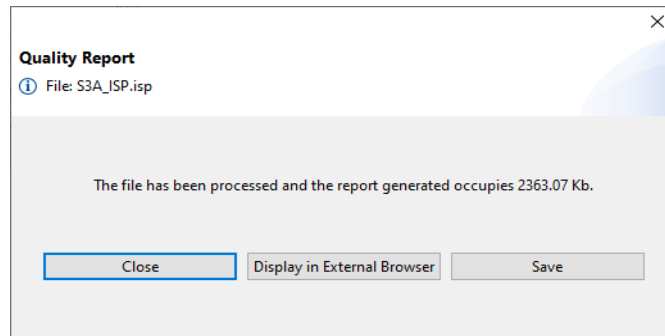

Figure 33: Finished Quality report dialog
3. When the report is finished, a dialog is shown (Figure 33) to the user that enables opening the report in an external browser from a default location, or save it in a user specified location.